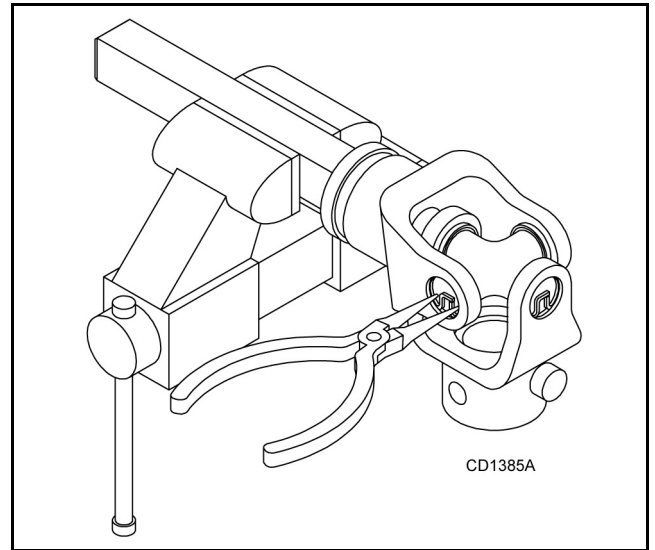

Figure 28.
2. With snap rings removed, support drive in vise, hold yoke in hand and tap on yoke to drive cup out of yoke. See Figure 28.